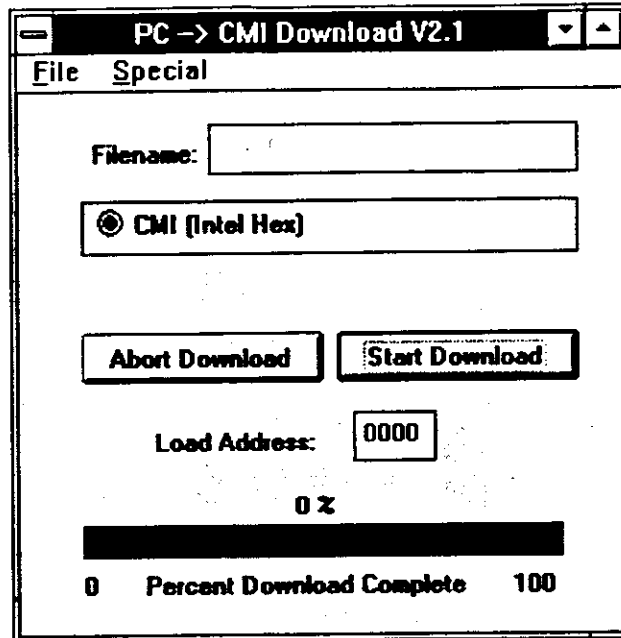

Figure 4-3. PC -> CMI Download Dialog
- c. Double click the Icon labeled PC -> CMI Download. The PC -> CMI Download dialog will appear (Figure 4-3).